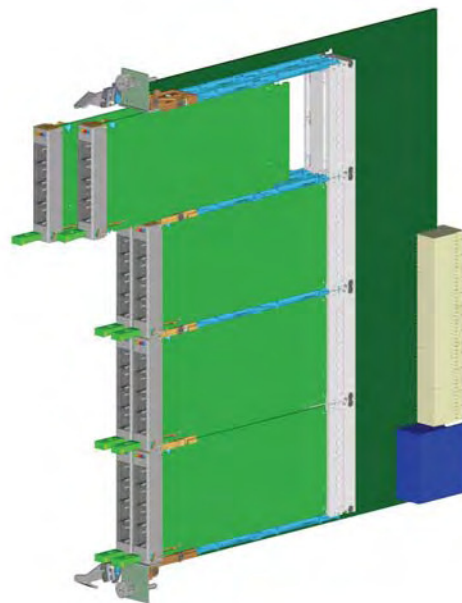

Figure 5
- **Cutaway Carriers:** The term *Cutaway Carrier* is derived from the carrier board below the AdvancedMC modules being cutaway to support stacked modules, as shown in Figure 5. Cutting the carrier board permits the maximum component height possible for Half-Height Modules and provides the needed space required for I/O interfaces on the faceplate. Full-Height Modules can be inserted into the upper bay of a Cutaway Carrier when the lower bay is unoccupied. Cutaway
Figure 5 shows how Cutaway Carriers are designed to enable stacked Half-Height Modules. The stacked modules are oriented such that component Side 1 of each AdvancedMC module faces in the same direction towards where the carrier board would be. Additional components may be placed on component Side 2 (A2 or B2) of each AdvancedMC module. Cutaway Carriers may also support a single layer Full-Height or Extended Full-Height module in the B layer only.